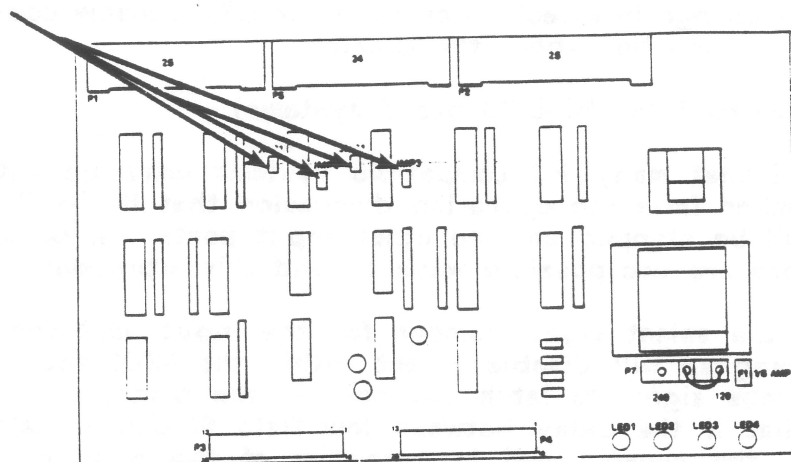

Figure 9 Select signal jumper locations
2. Locate the four jumpers; JMP1, JMP2, JMP3, JMP4. The jumper number corresponds to the numbered console ports on the rear of the MUX. Refer to Figure 9 on the next page for jumper locations.